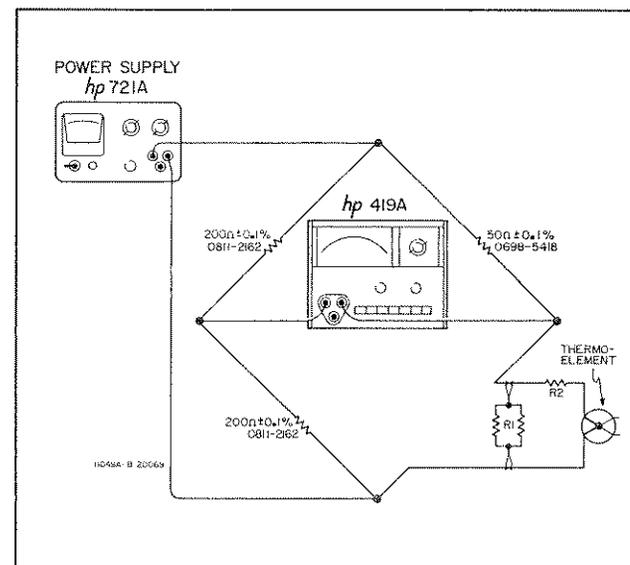

Figure 8. Selection of R1
33. Figure 8 shows a bridge for selecting R1. R1 is adjusted for null with the drive voltage set so that the thermoelement operates at near rated full scale input. Proceed as follows.
- a. With the power supply off, construct the bridge shown in Figure 8.
b. Connect an initial value of R1 as shown in Figure 8. For 11049A use two 120 Ω resistors in parallel; for 11050A use a 150 Ω and a 120 Ω resistor in parallel; for 11051A use two 220 Ω resistors in parallel.